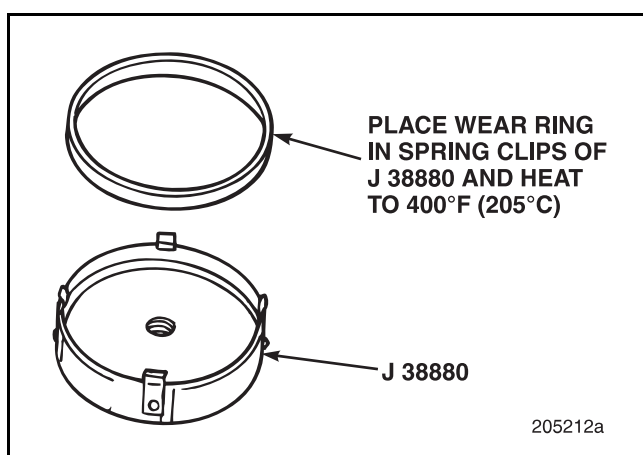

Figure 6-35 — Crankshaft Wear Ring Installation
5. Remove the wear ring and installation tool from the oven or hot plate and immediately position the wear ring and installation tool over the crankshaft flange until the installation tool is fully seated against the end of the flange. As the wear ring cools, it will shrink fit onto the crankshaft flange. Refer to Figure 6-35.